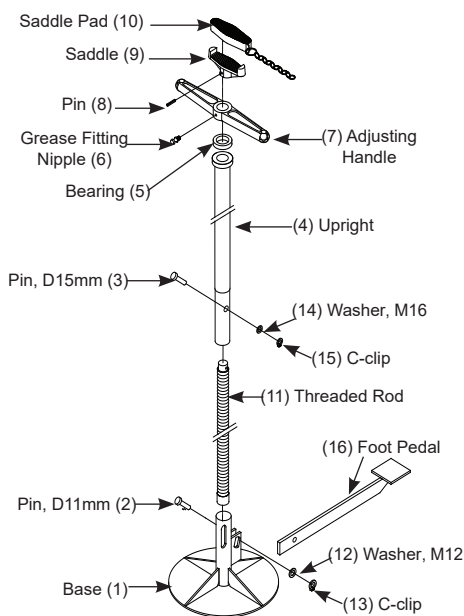

Figure 2 - 31501 Nomenclature
- b. **For Model 31501 (see Fig. 2):**
- i) Insert upright assembly onto the base (1) with slot in upright facing foot pedal mount and secure using the larger pin, washer & c-clip (3, 14 & 15).
- ii) Insert foot pedal (16) into slot on base (1) and secure with remaining pin, washer and c-clip (2, 12 & 13).